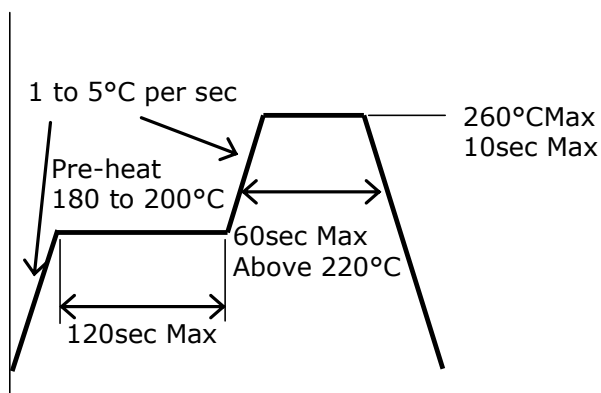

Figure 8. Recommended Reflow Soldering Condition (Lead-free Solder)
- Using the recommended reflow soldering conditions (See Figure 8 to the left) as a reference, modify if necessary, the recommended reflow conditions specified by the manufacturer of the solder paste being used.